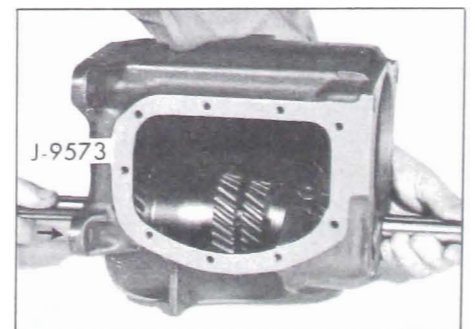

Figure 4-24—Removing Countershaft with J-9573
16. From the front of the case, remove countershaft (Figure 4-24) with J-9573; then remove the counter gear and both tanged washers.